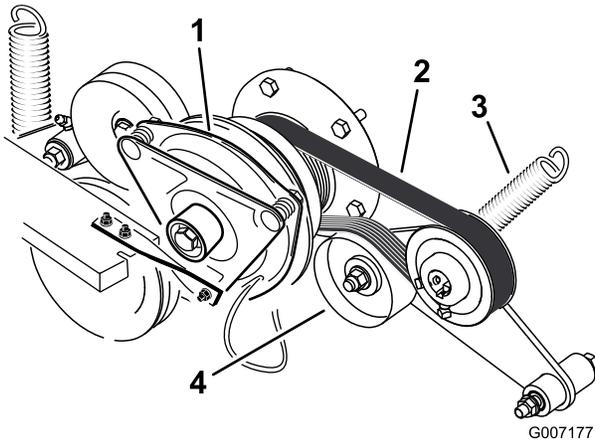

Figure 68
3. Remove the spring from the idler arm (Figure 68).
4. Install the new belt around the engine and hydro pump pulley (Figure 68).
6. Install the spring to the idler arm (Figure 68).